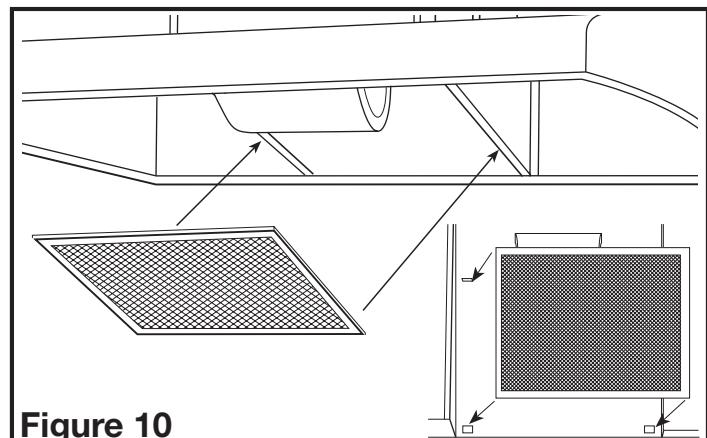

Figure 10
- Install the appropriate filter sliding the back side of the filter into the tab and pressing the front of the filter into place (Figure 10).